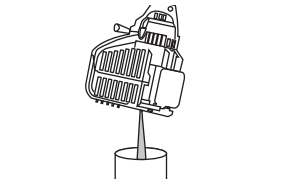

Fig. 26
- Pour the oil out of the oil fill hole and into a container by tipping the unit to a vertical position (Fig. 26). Allow ample time for complete drainage.